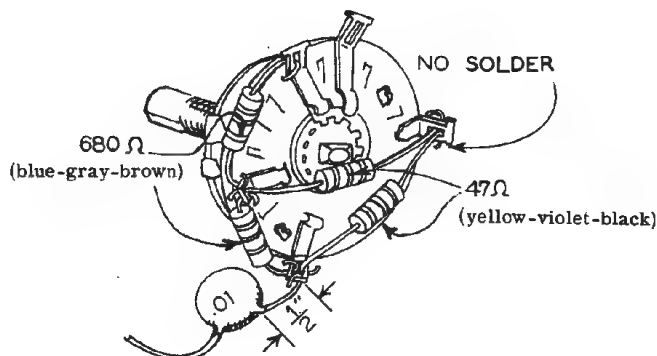

Figure 10
- () Prepare the attenuator switch SW4 as shown in Figure 10. Install the switch, using a control lockwasher and a control solder lug next to the panel. Orient as shown, so that knob pointer will indicate properly.
- () With the use of sleeving, connect the .01 μ fd capacitor from SW4 to the RF output jack (S).